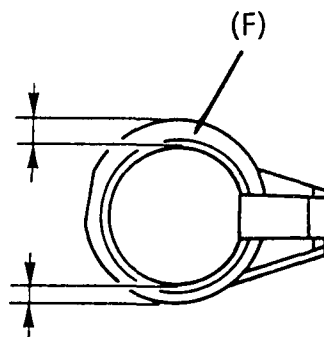

FIGURE 4-9 Cable Guide
- (2) Position the cable guide so that thicker part (F) comes to the upper side as shown in figure 4-9.